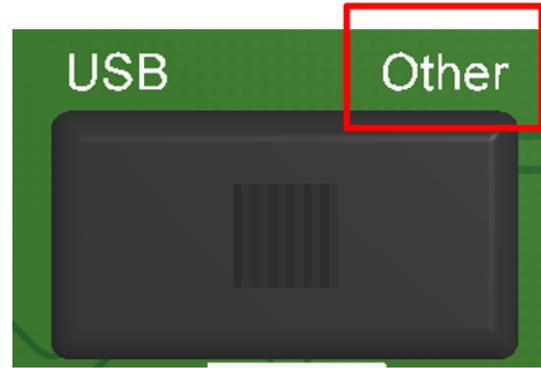

Figure 14. USB vs Other = 'Other'
- If you are going to power the programming board with an external power supply or wall socket, set the switch to the “Other” state, as shown in Figure 14